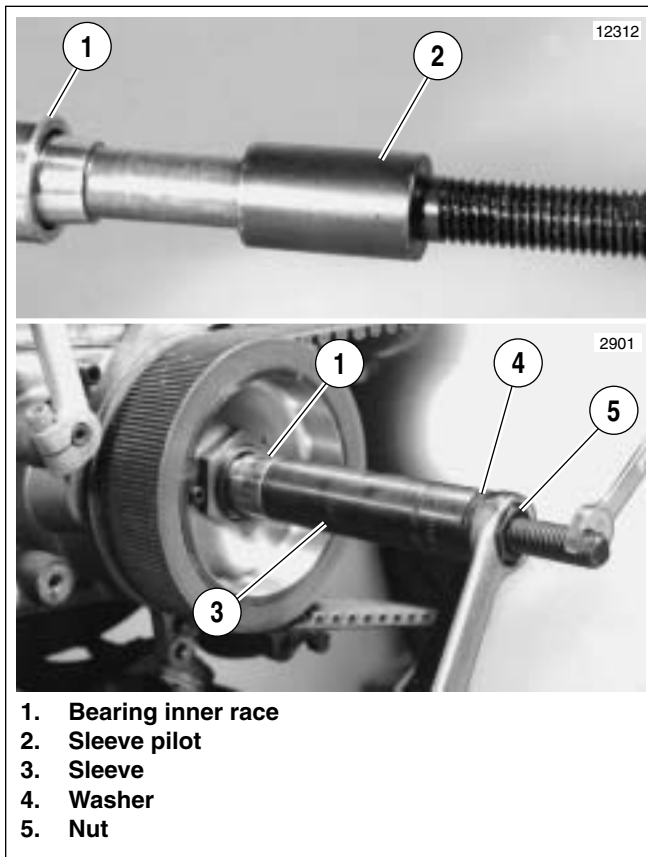

Figure 14. Installing Mainshaft Inner Bearing Race
*See Figure 14. The **new** mainshaft inner bearing race (Part No. 34091-06 from recall parts kit) must be positioned on the mainshaft a precise distance to properly align with bearing outer race in inner primary chaincase.*
17. See Figure 14. To install **new** mainshaft bearing inner race (1) (Part No. 34091-06 from recall parts kit), use those parts of the combination BEARING RACE PULLER AND INSTALLATION TOOL (Part No. HD-34902-B) that are shown in the figure.
- a. Slide bearing inner race (1) onto mainshaft with numbered end of race facing away from main drive gear.
- b. Thread sleeve pilot (2) onto end of mainshaft (left hand thread).
- c. Position sleeve (3) over sleeve pilot and against bearing inner race.
- d. Place washer (4) over threaded portion of sleeve pilot and install nut (5).